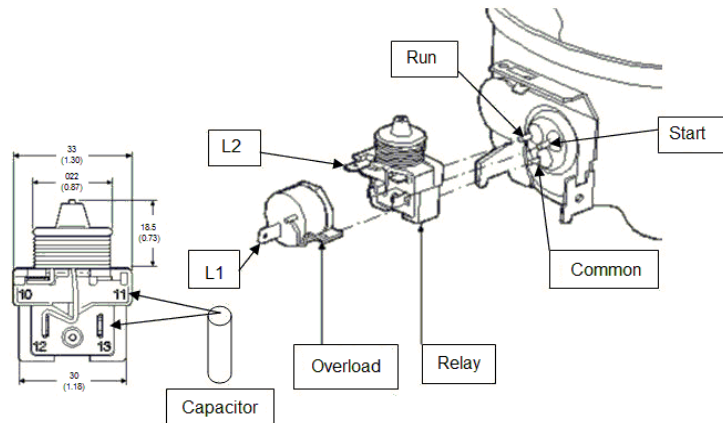

FIGURE 13. COMPRESSOR START COMPONENTS
- C. Check relay. See Figure 13 shown below. Remove lead terminals and remove relay from compressor. Keep relay upright.
- E. Check compressor windings. See Figure 13 shown below.